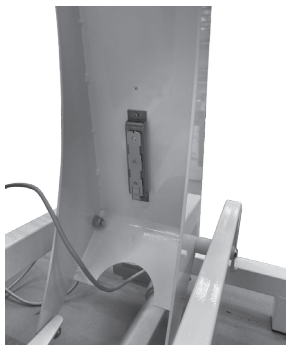

Fig.6
- Assembly the control unit on the appropriate support below the bed plan lifting pantograph as shown in Fig.6